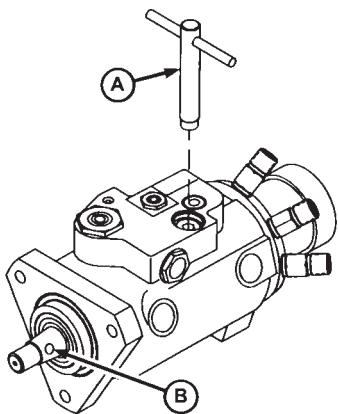

Figure 22 Reproduced by permission of Deere & Company, c.2004. Deere & Company. All reserved.
1. Place an injection pump timing pin, JDG1559 (Fig. 22 A) into the pump timing pin bore before installing the injection pump. Insert a small punch or screw driver into the hole on the pump drive shaft (B) until the timing pin drops into the recess in the injection pump drive shaft.